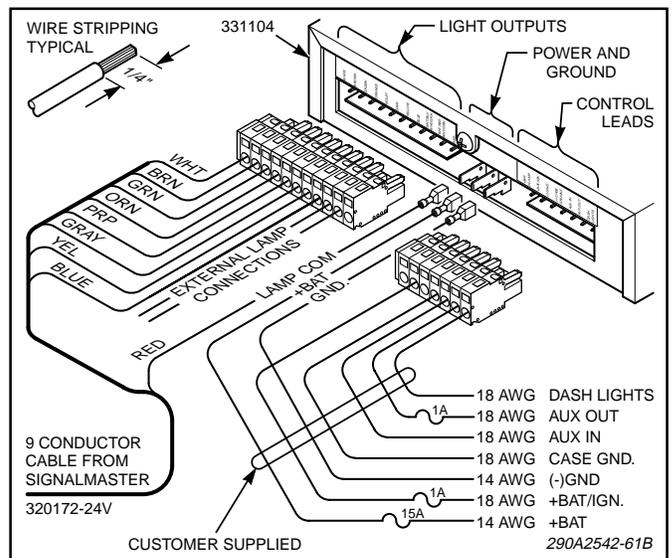

Figure 2.
required for the (+) BAT and (-) GND connections. User-supplied, 18-gauge red and green wires are required for the (+) IGNITION and (-) CASE GROUND connections on the seven-position connector. In addition, user-supplied 18-gauge wire is used for the AUX IN, AUX OUT, and DASH LIGHTS connections. Using figure 2 as a guide, complete this portion of the installation as follows:
To avoid damage and ensure proper operation, the red and black wires MUST be installed as shown in figure 2.
a. Strip 1/4" of insulation off of each 14AWG red and black wire. See figure 2. Crimp a 0.187" wide spade receptacle on the red wire. Crimp the 0.250" wide spade receptacle on the black wire.
b. Connect the red and black 14-gauge terminated wires to the +BAT and GND positions as shown in figure 2.
d. Connect the 18-gauge red (IGNITION) and green (CASE GROUND) wires to the connector as shown in figures 2 and 3.
The AUX OUT connection will provide a ground to activate a ground-activated relay (user-supplied) when the AUX switch is operated. To perform the wiring for these connections, proceed as follows (see figures 2 and 3):
See figures 2 and 3. Connect a user-supplied 18-gauge wire to the seven-position connector's DASH LIGHTS connection. Route the wire to the vehicle instrument light circuit (if backlight dimming is required) or the accessory terminal of the ignition switch and terminate as required.
c. Connect the eight 22-gauge wires to the eleven-position connector as shown in figures 2 and 3. Positions 9 and 10